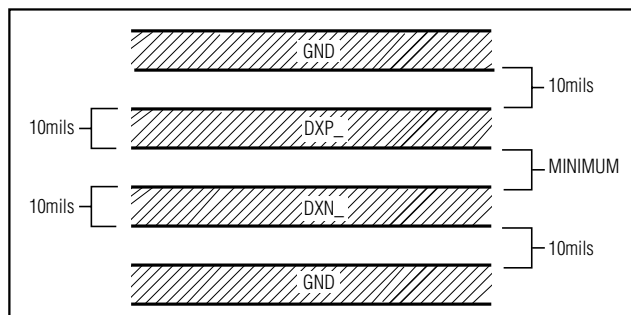

Figure 2. Recommended DXP\_/DXN\_ PC Traces
- 4) Connect guard traces to GND on either side of the DXP\_ to DXN\_ traces (Figure 2). With guard traces in place, routing near high-voltage traces is no longer an issue.
- 7) Use wide traces. Narrow ones are more inductive and tend to pick up radiated noise. The 10mil widths and spacings recommended in Figure 2 are not absolutely necessary (as they offer only a minor improvement in leakage and noise), but try to use them where practical.